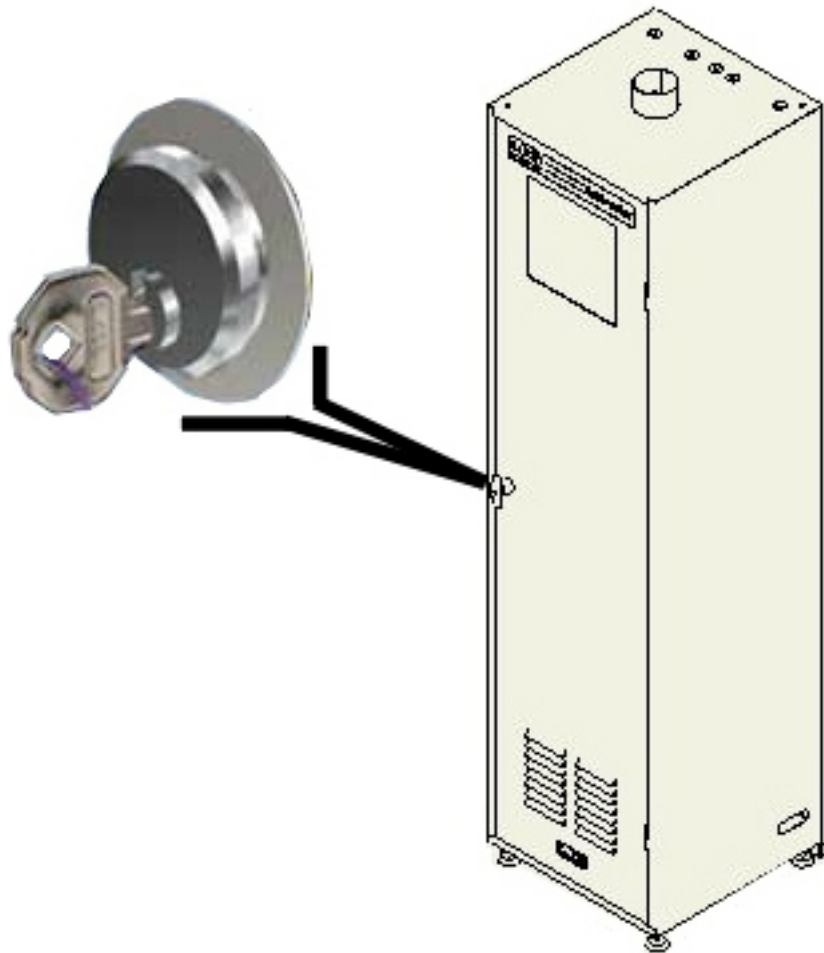

fig. 14.2
- **Door:** ensure that the supports are intact, that the locks function correctly, that glass parts are intact. Keep the outside of the safety guards clean; always make sure the hinges and locks work efficiently (fig. 14.2).
- **Lock:** ensure that the lock is correctly fitted and functions correctly and that no parts can cause a malfunction (fig. 14.2).